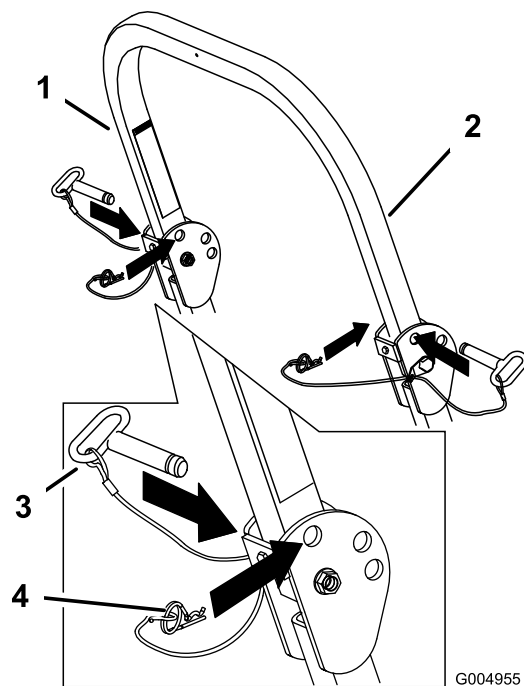

Figure 10
1. Remove the hairpin cotter pins and remove the two pins (Figure 10).
3. Install the two pins and secure them with the hairpin cotter pins (Figure 10).
4. To raise the roll bar, remove the hairpin cotter pins and remove the two pins (Figure 10).
5. Raise the roll bar to the upright position and install the two pins and secure them with the hairpin cotter pins (Figure 10).